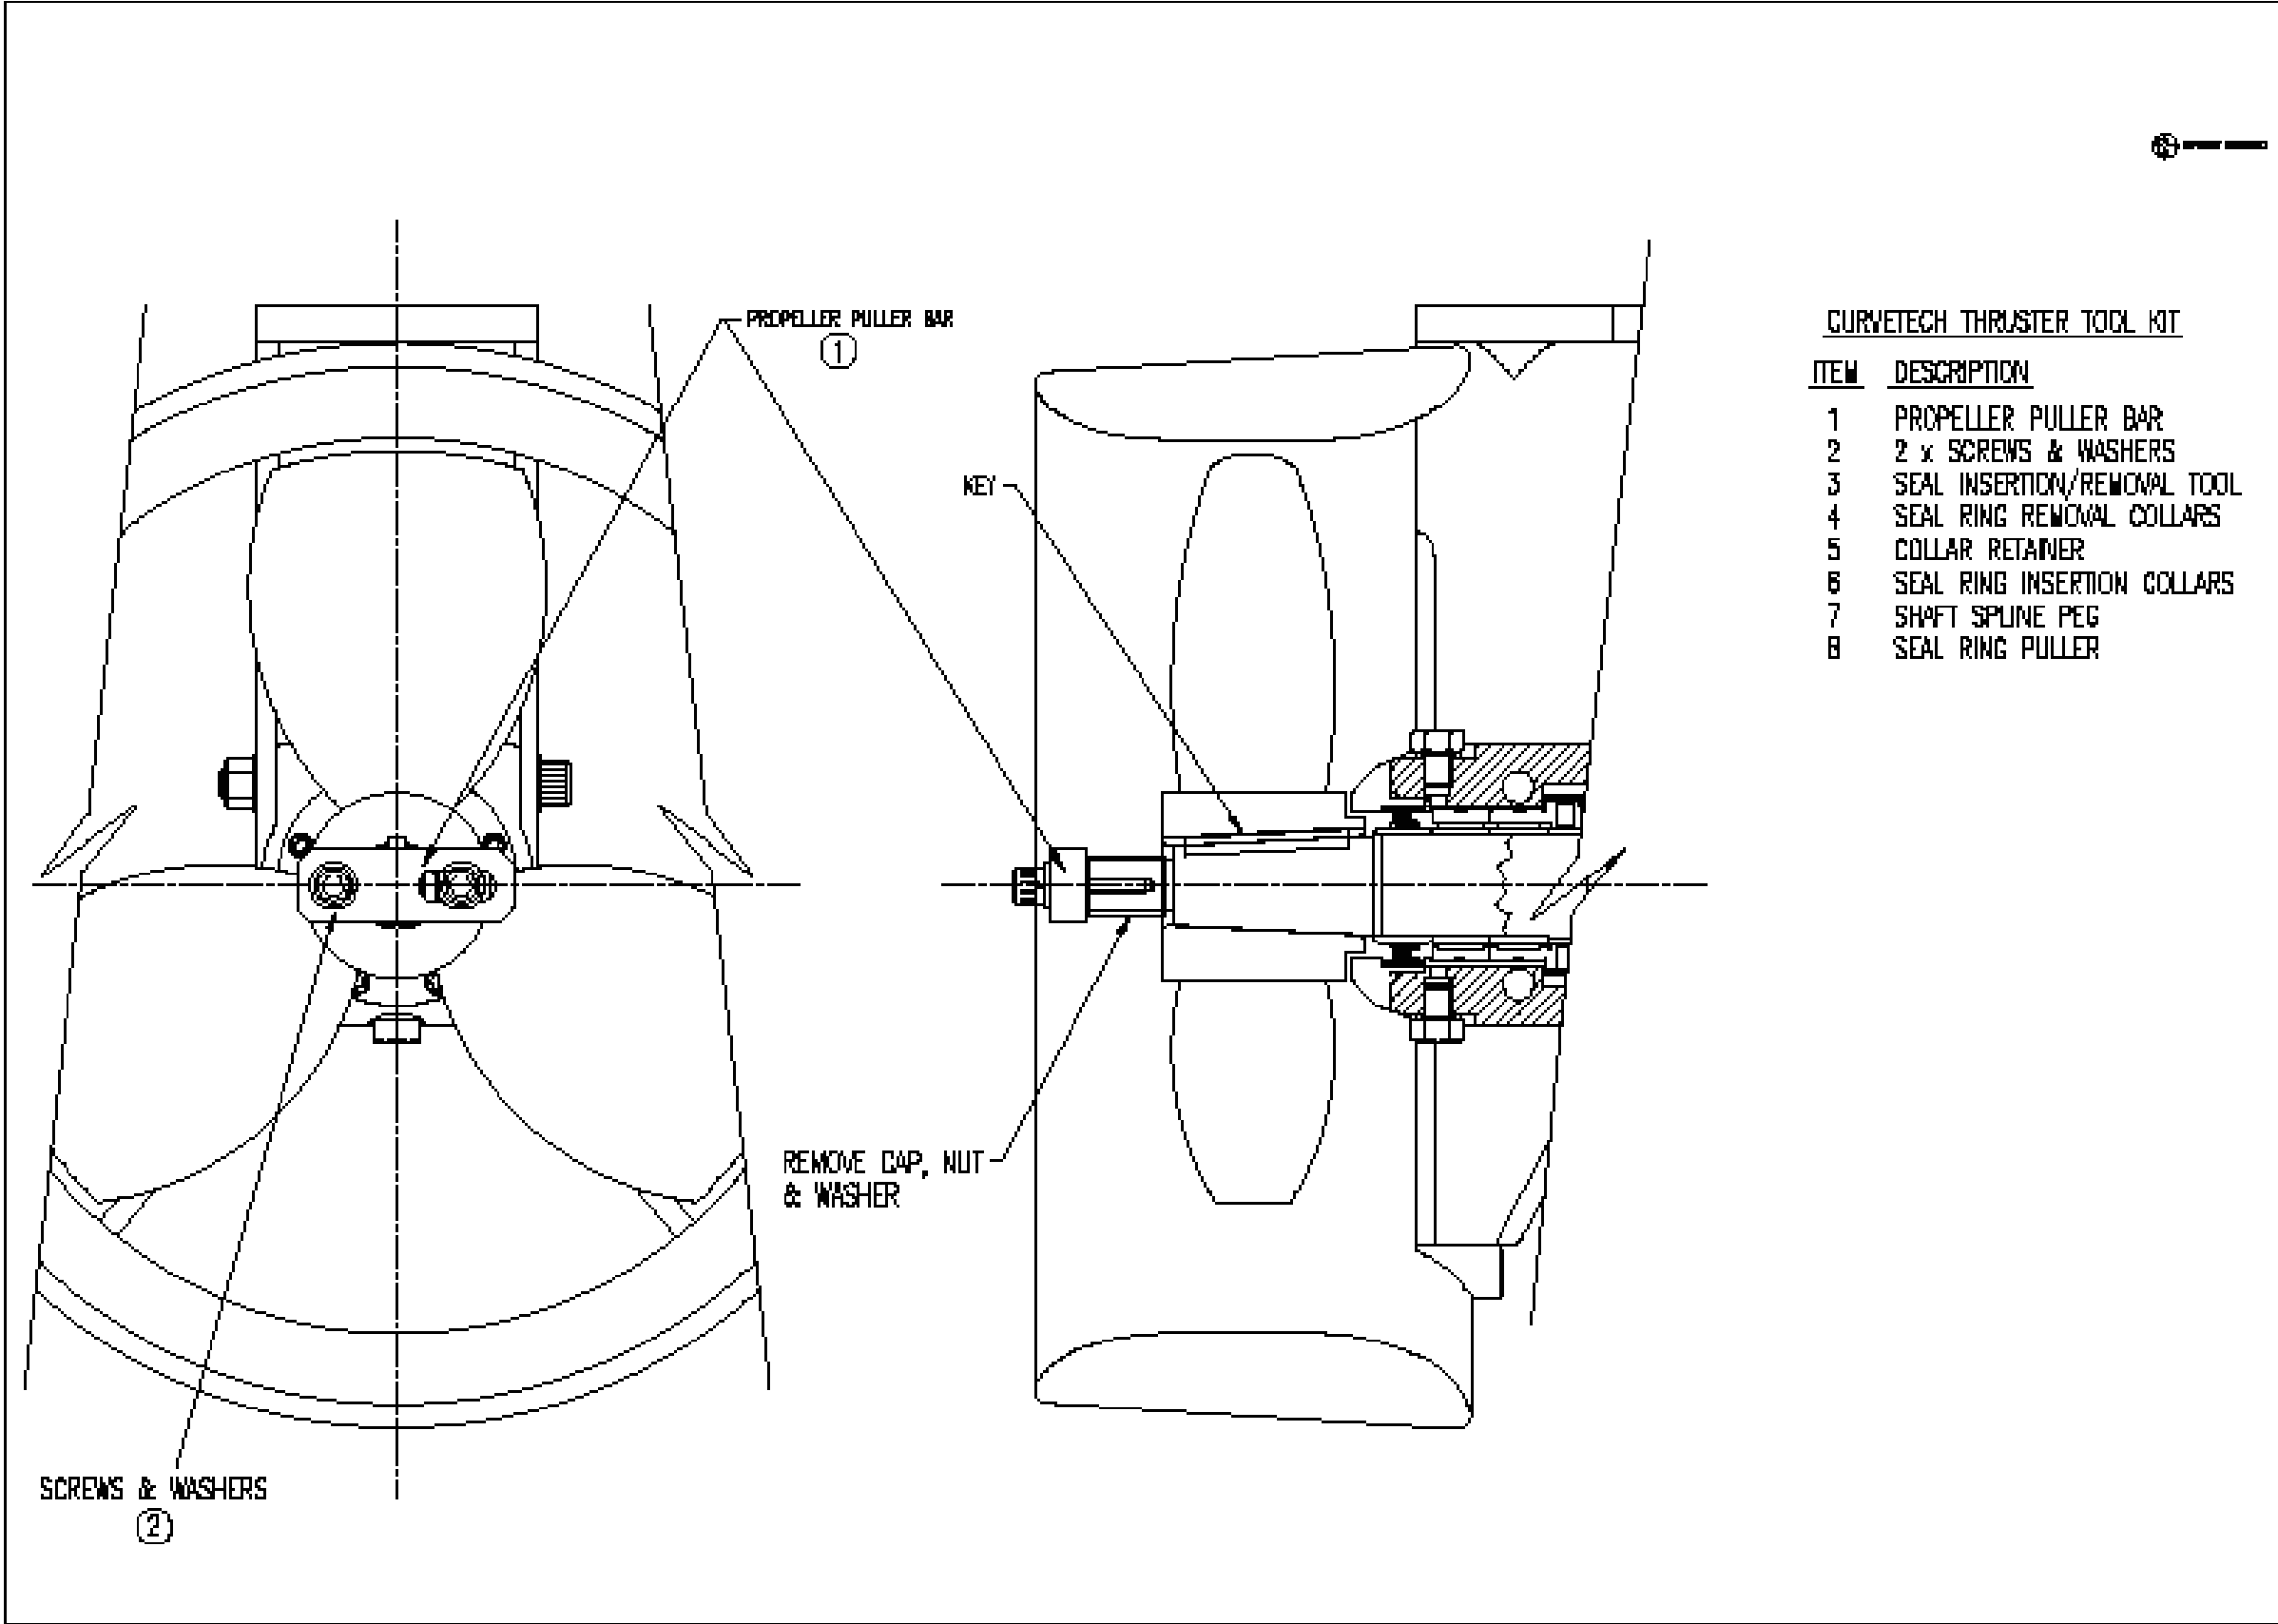
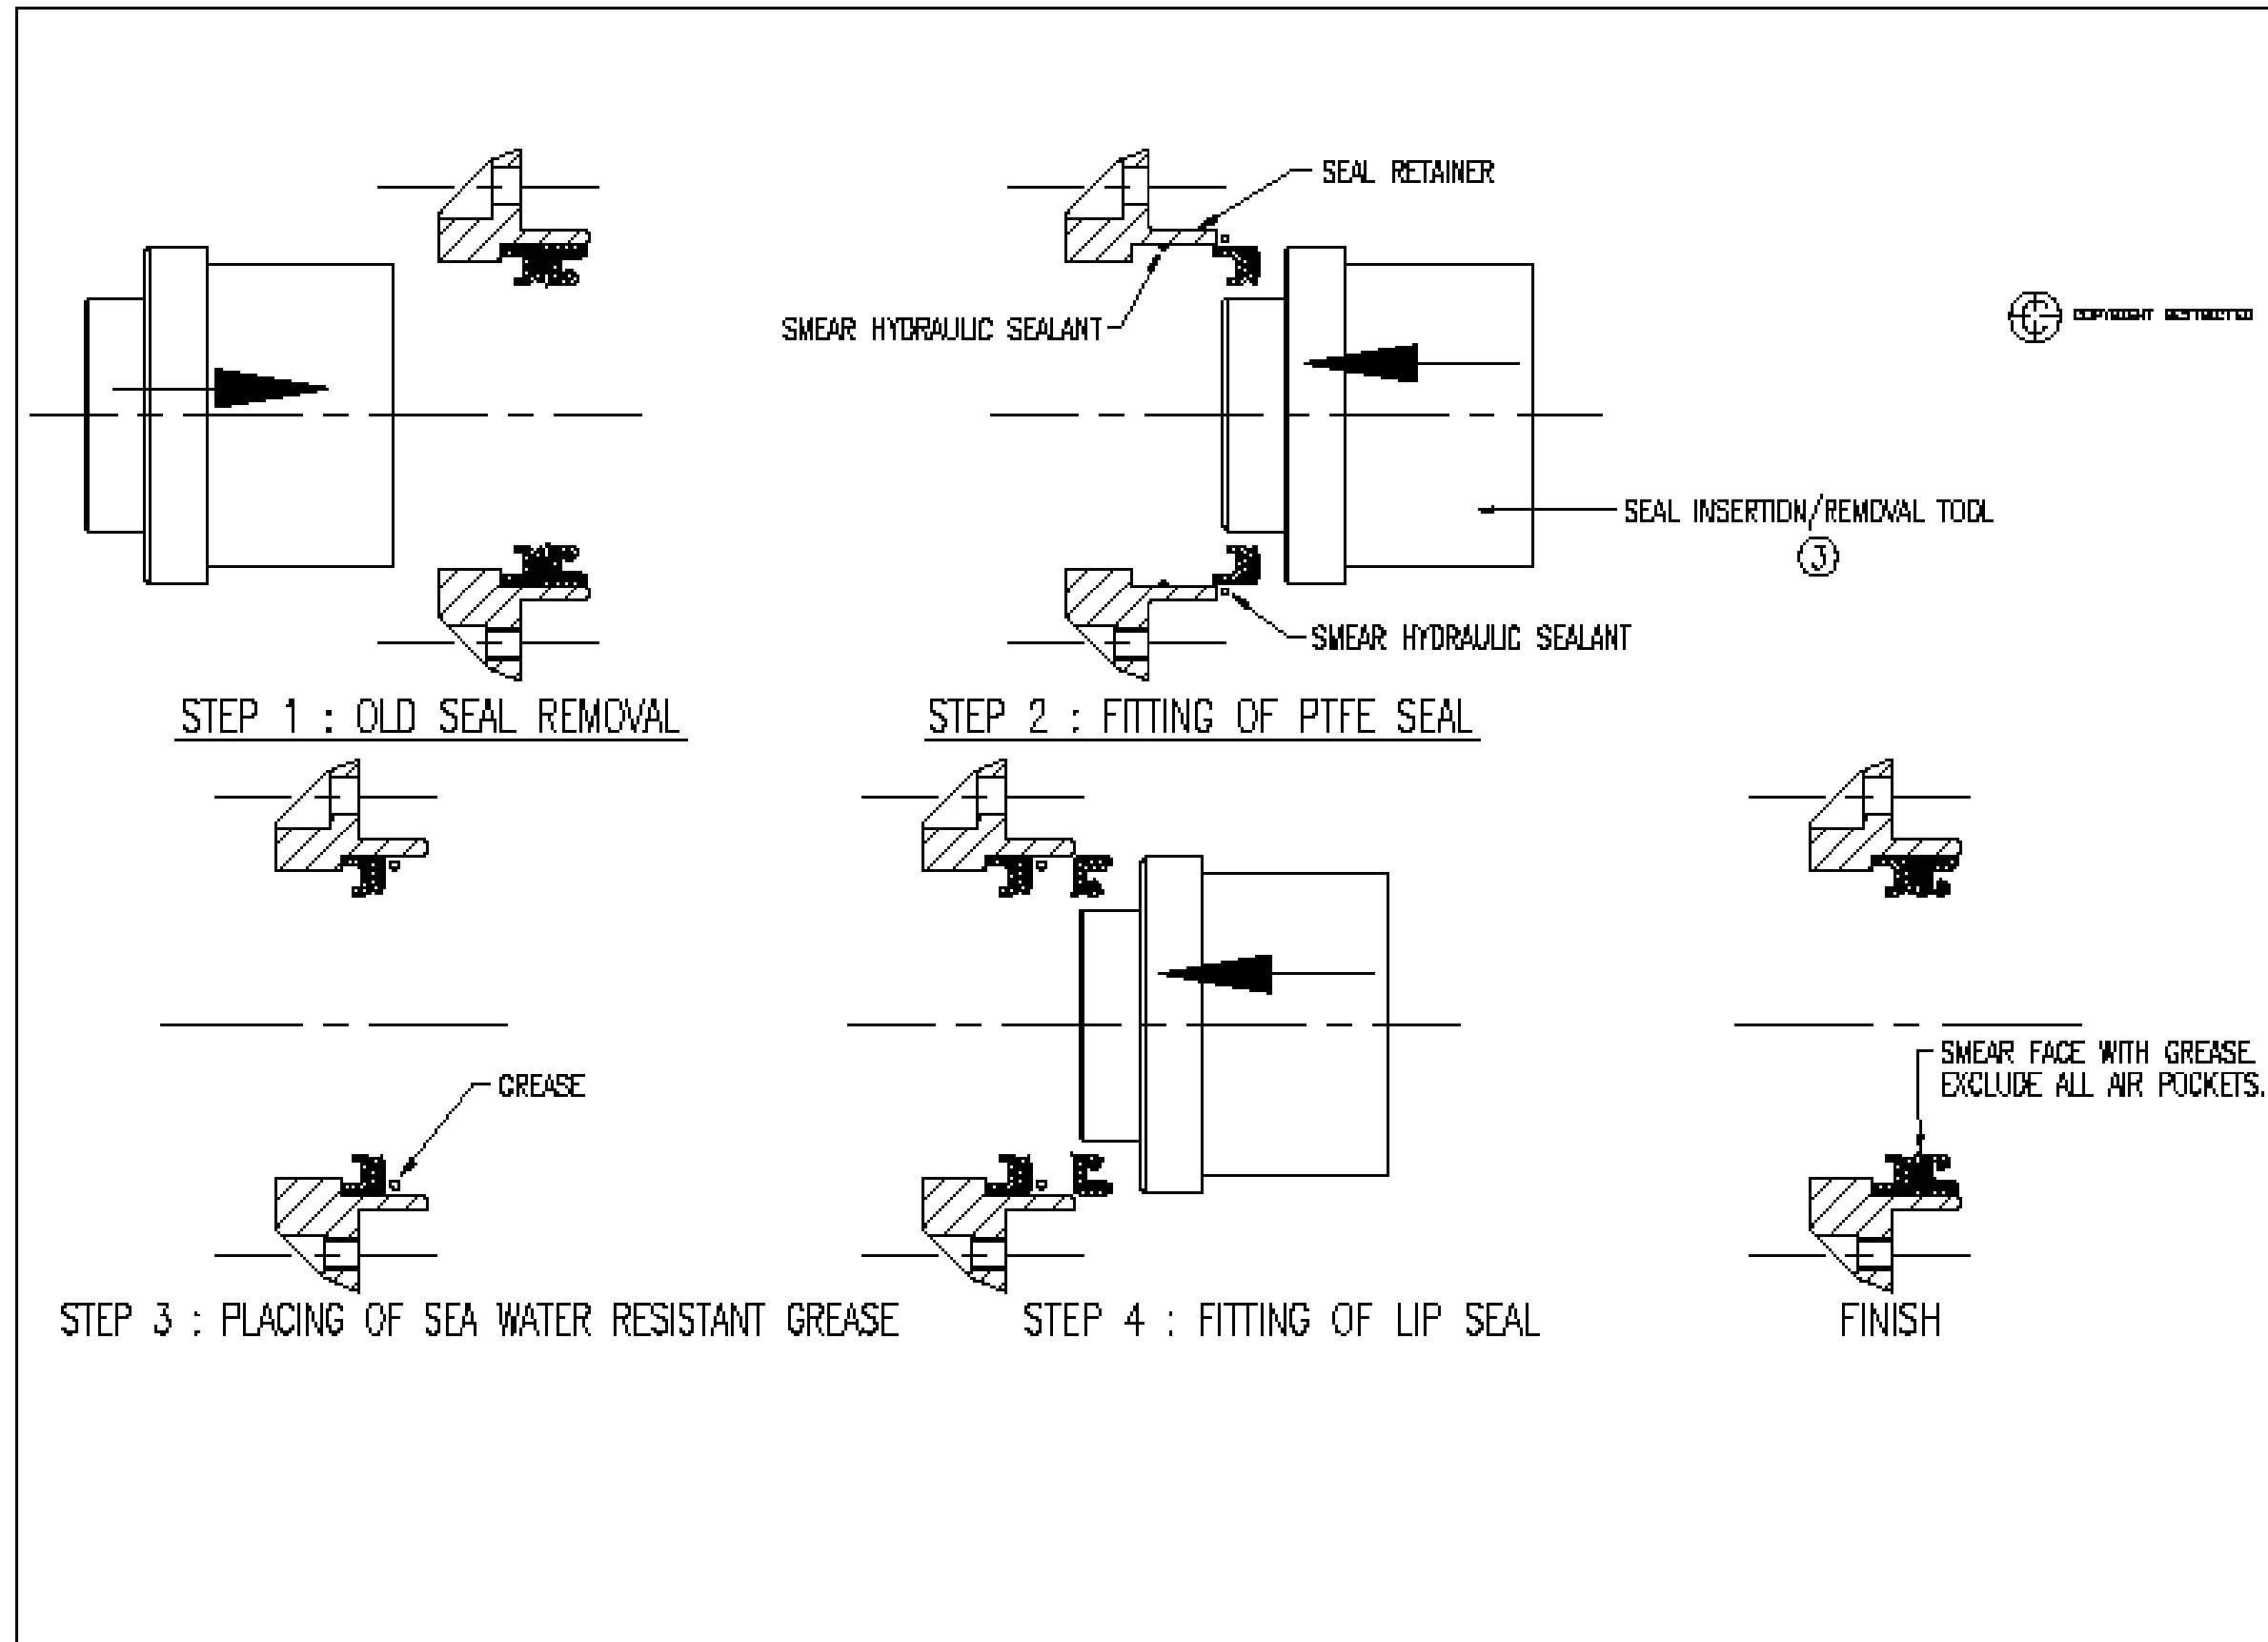
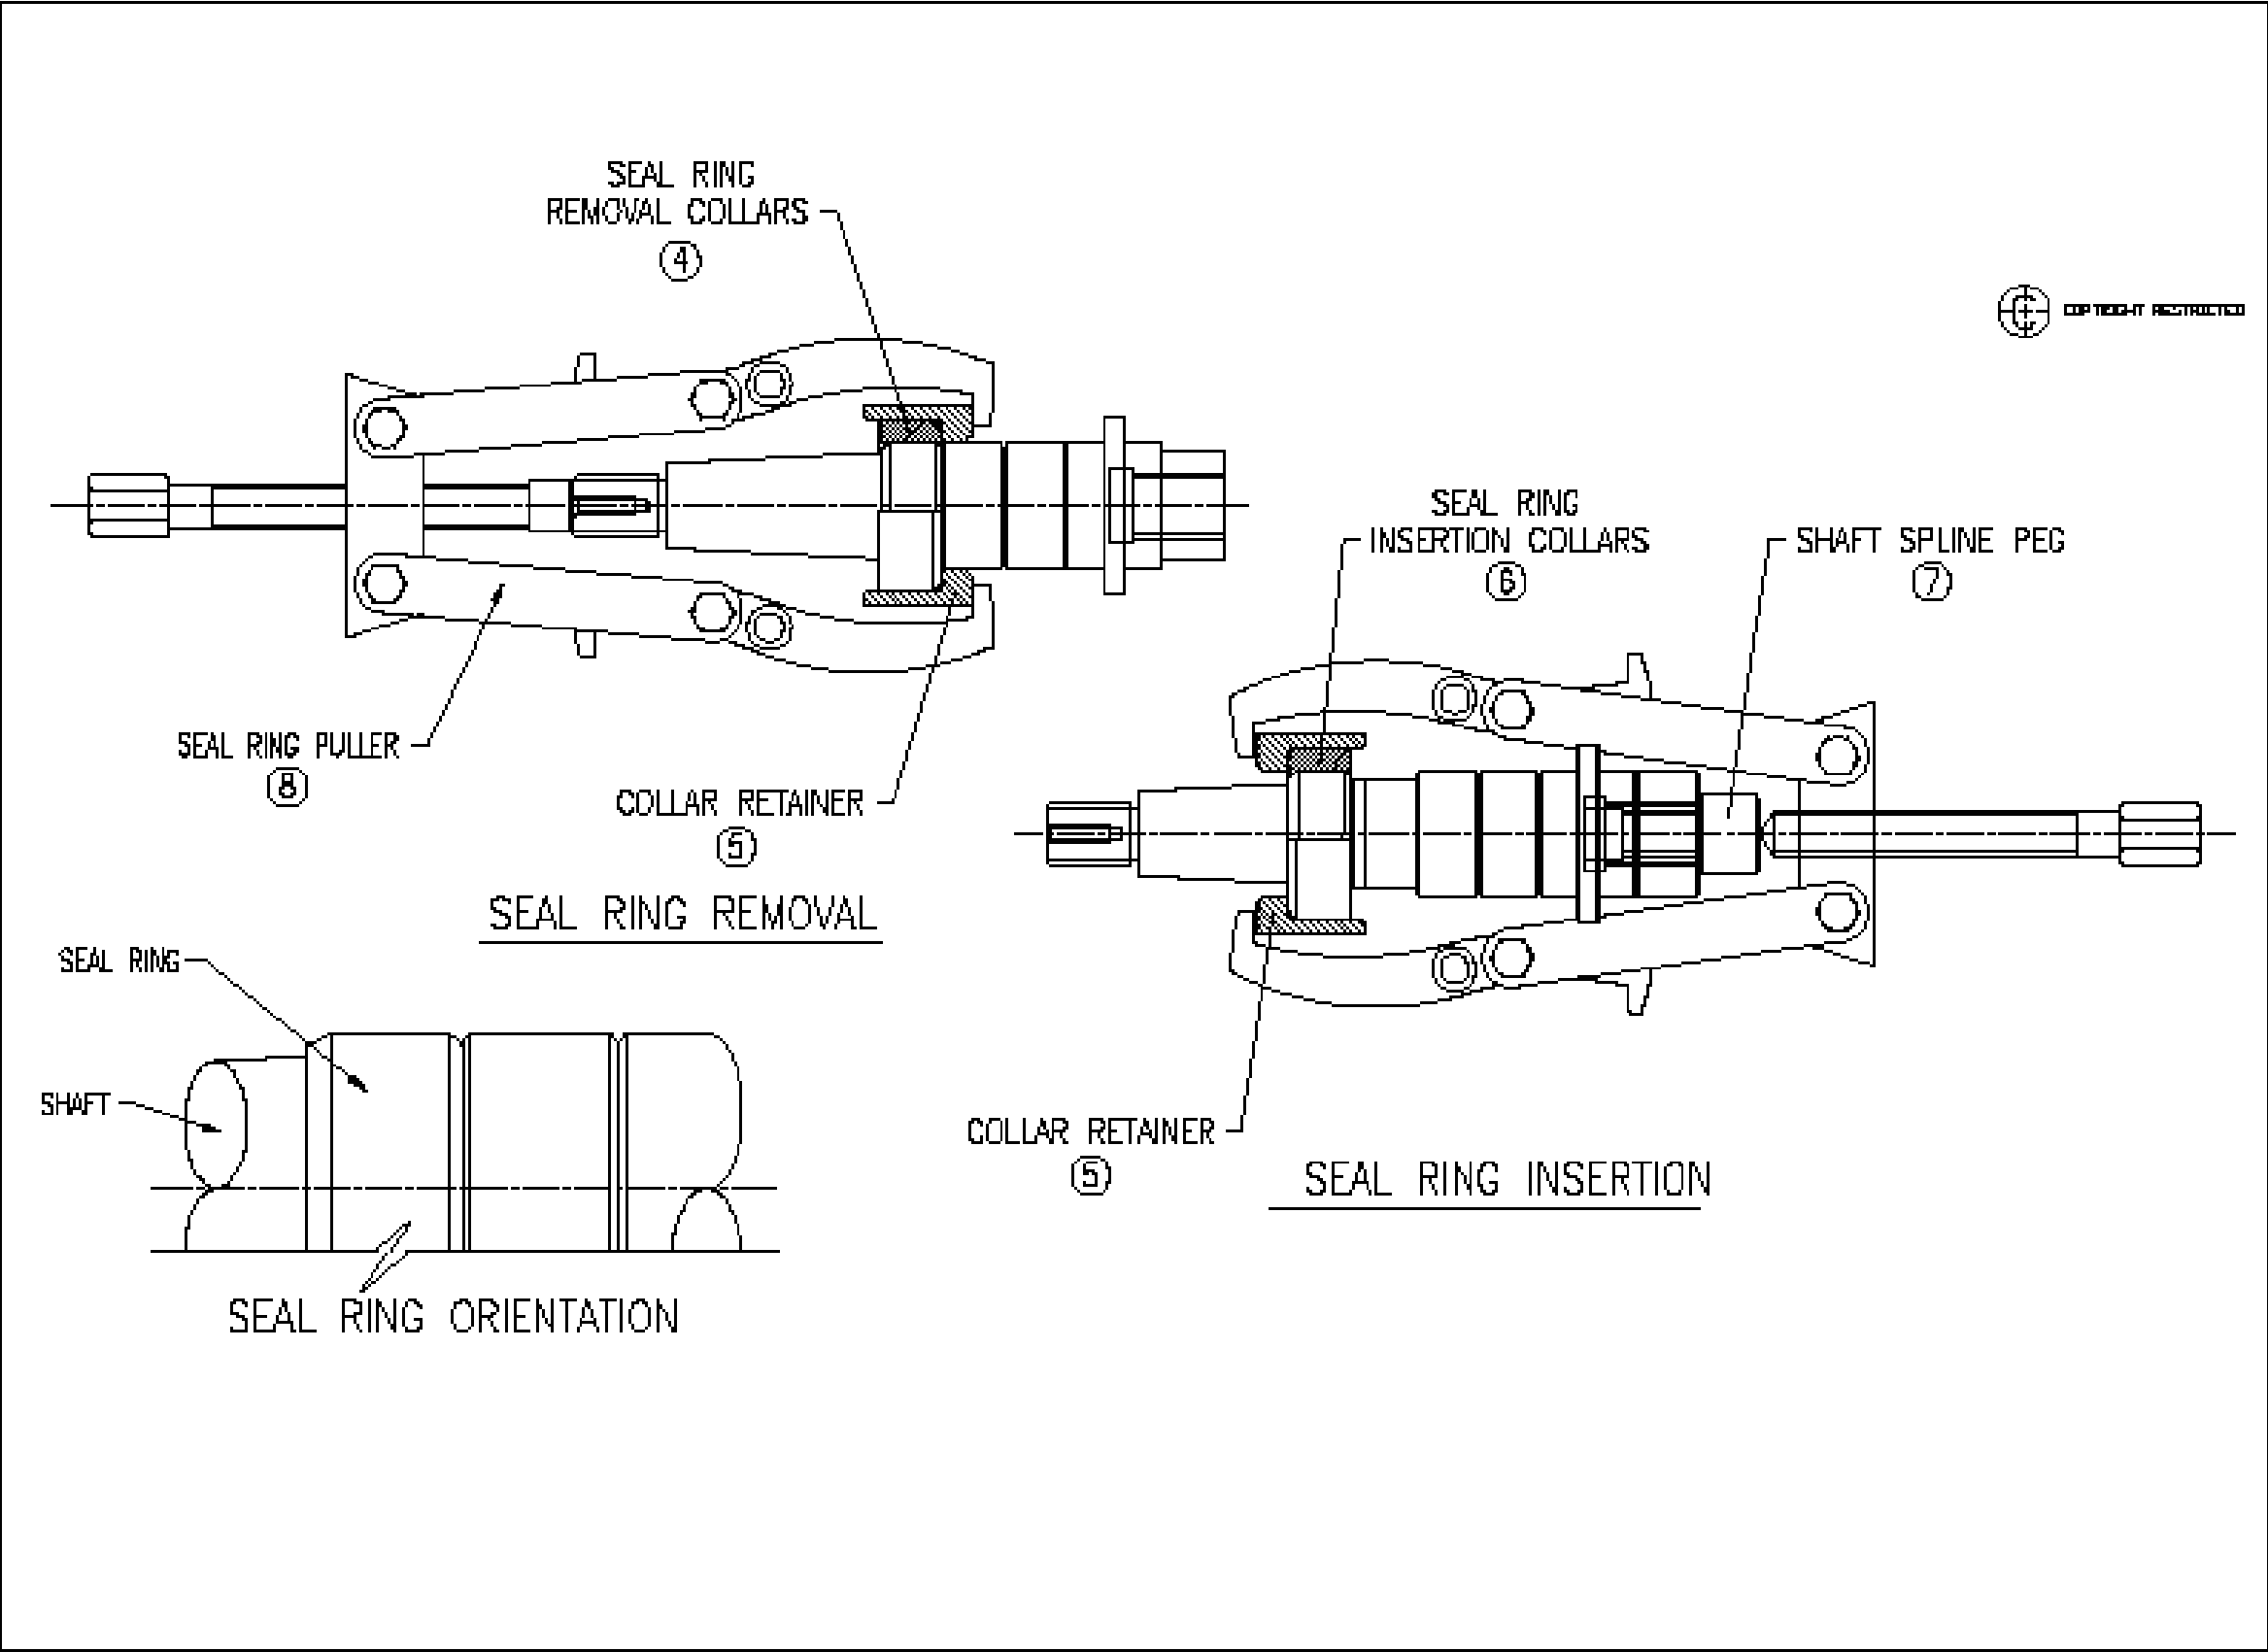

Figure 9 - Curvtech Thruster Propeller Removal
Figure 10 - Curvetech Thruster Removal & Fitting Of Seals Into Seal Retainer
Figure 11 - Curvetechn Thruster Seal Ring Removal & Replacement
- 1) Refer to the drawings attached Figure 9, Figure 10, Figure 11, & Figure 6
- 3) Using the propeller puller bar tool (OV 3047) draw the propeller (3/2) from the shaft (2/8) and remove the key (3/1).
Refer to Figure 9, Figure 10, Figure 11, & Figure 6.